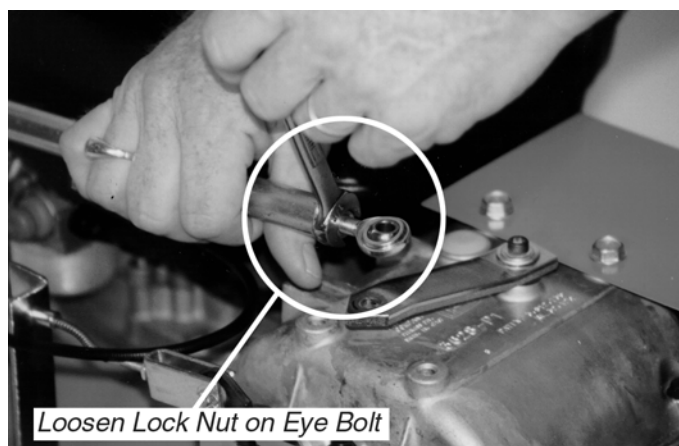

Figure 34
5. Loosen the lock nut on the eye bolt (*Figure 34*), and turn the eye bolt one turn at a time to take up slack in the tie rod. Place the tie rod back on the transmission arm, insert the nut and bolt and retighten. This should enable you to engage the full range of gears.